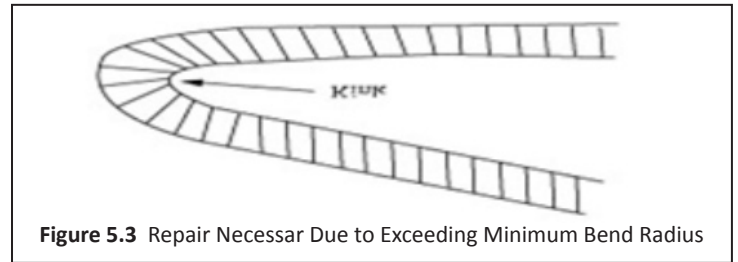

Figure 5.3 Repair Necessar Due to Exceeding Minimum Bend Radius
3) The tubing has been bent beyond its minimum bend radius such that a crease or kink remains. (Figure 5.3)